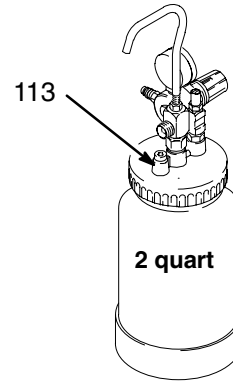

Fig. 5
1. Relieve remote pressure pot pressure as follows (see Fig. 5):
b. Turn **out** pressure relief knob (113) one turn. Wait until pressure is completely relieved before you remove cover. Close knob.